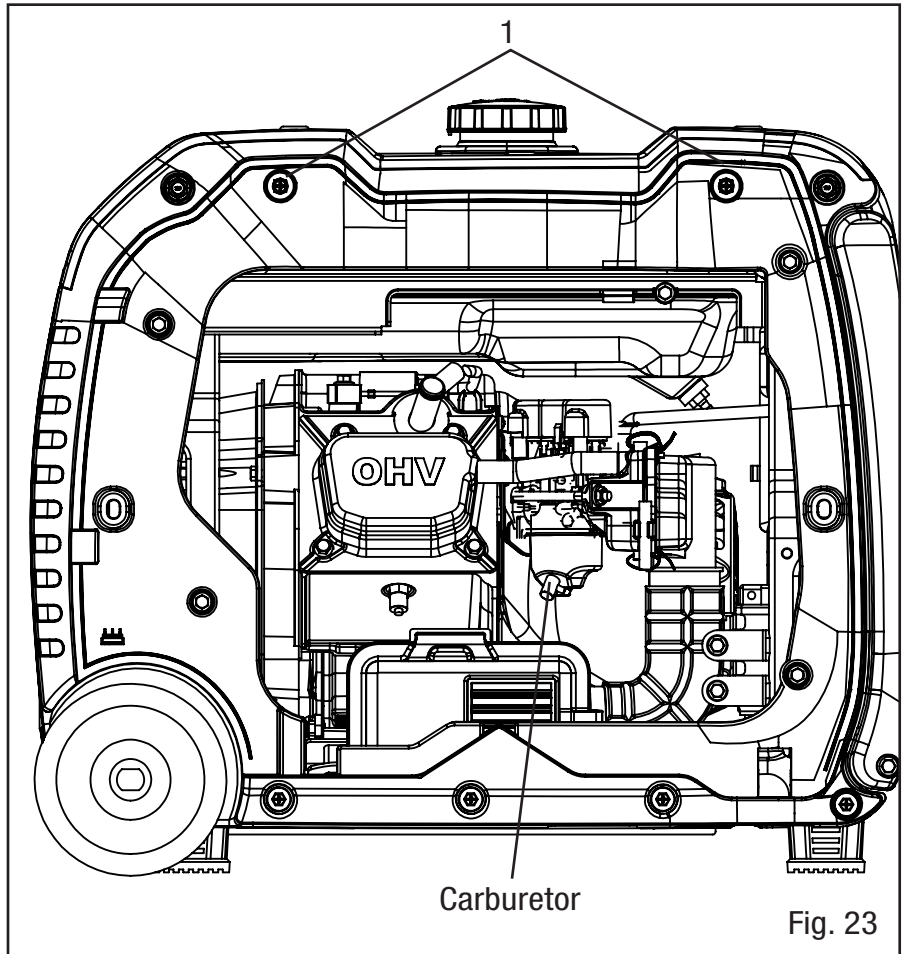
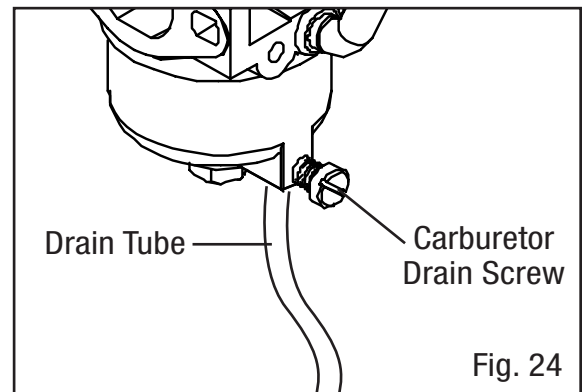

Fig. 23
Fig. 24
3. Using a Phillips-head screwdriver (not included), unscrew the top two screws (Fig. 23 - 1) and remove the service panel on the opposite side of the recoil starter.
4. The carburetor can be accessed between the engine and the air filter (Fig. 23). Locate the transparent tube from the carburetor (Fig. 24) that extends down through the base plate of the generator.
6. Open up the carburetor drain screw (Fig. 24) with a flat-head screwdriver (not included) and drain out any gasoline that has built up inside the carburetor through the drain tube into the approved gasoline-storage container.
1. Using a Phillips-head screwdriver (not included), unscrew the top two screws (Fig. 23 - 1) and remove the service panel on the opposite side of the recoil starter.
1. Using a Phillips-head screwdriver (not included), remove the service panel on the opposite side of the recoil starter by unscrewing the top two screws (Fig. 23 - 1).